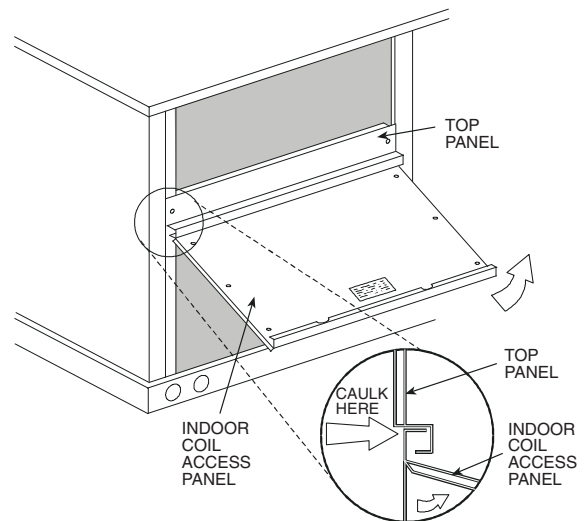

Fig. 15 — Indoor Coil Access Panel Relocation
- Caulk the ends of the joint between the unit top panel and the hood top as shown in Fig. 15.